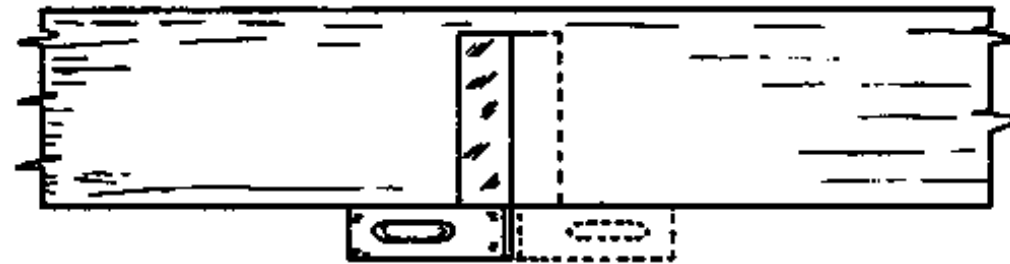

Fig. 6
- 2. Lay the blade in position "X" and draw a line along the blade (Fig. 6).**